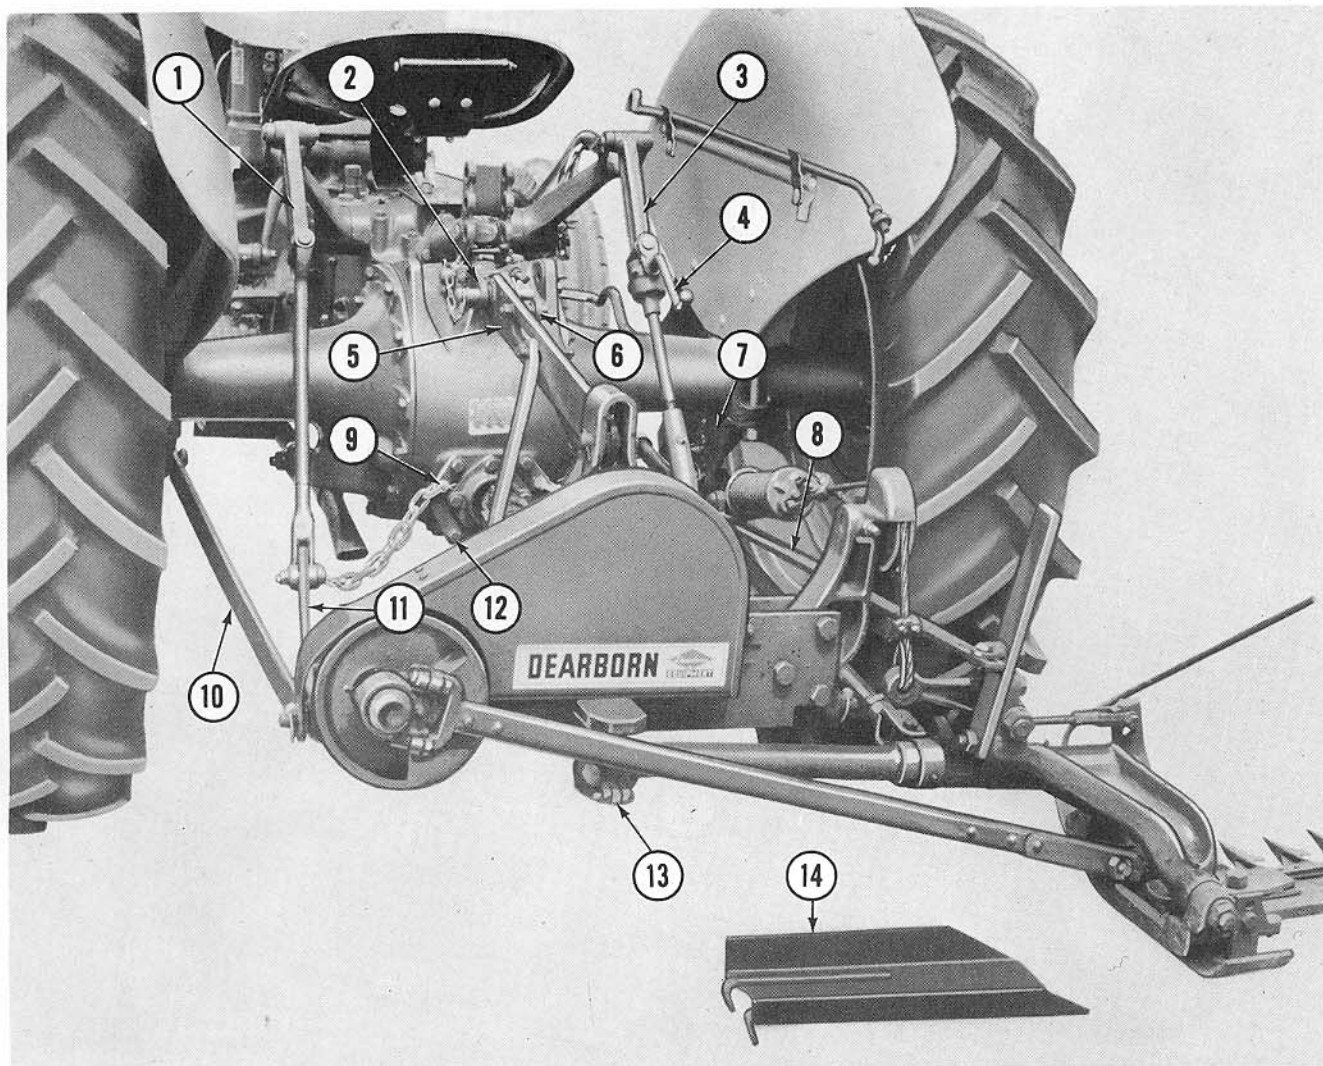
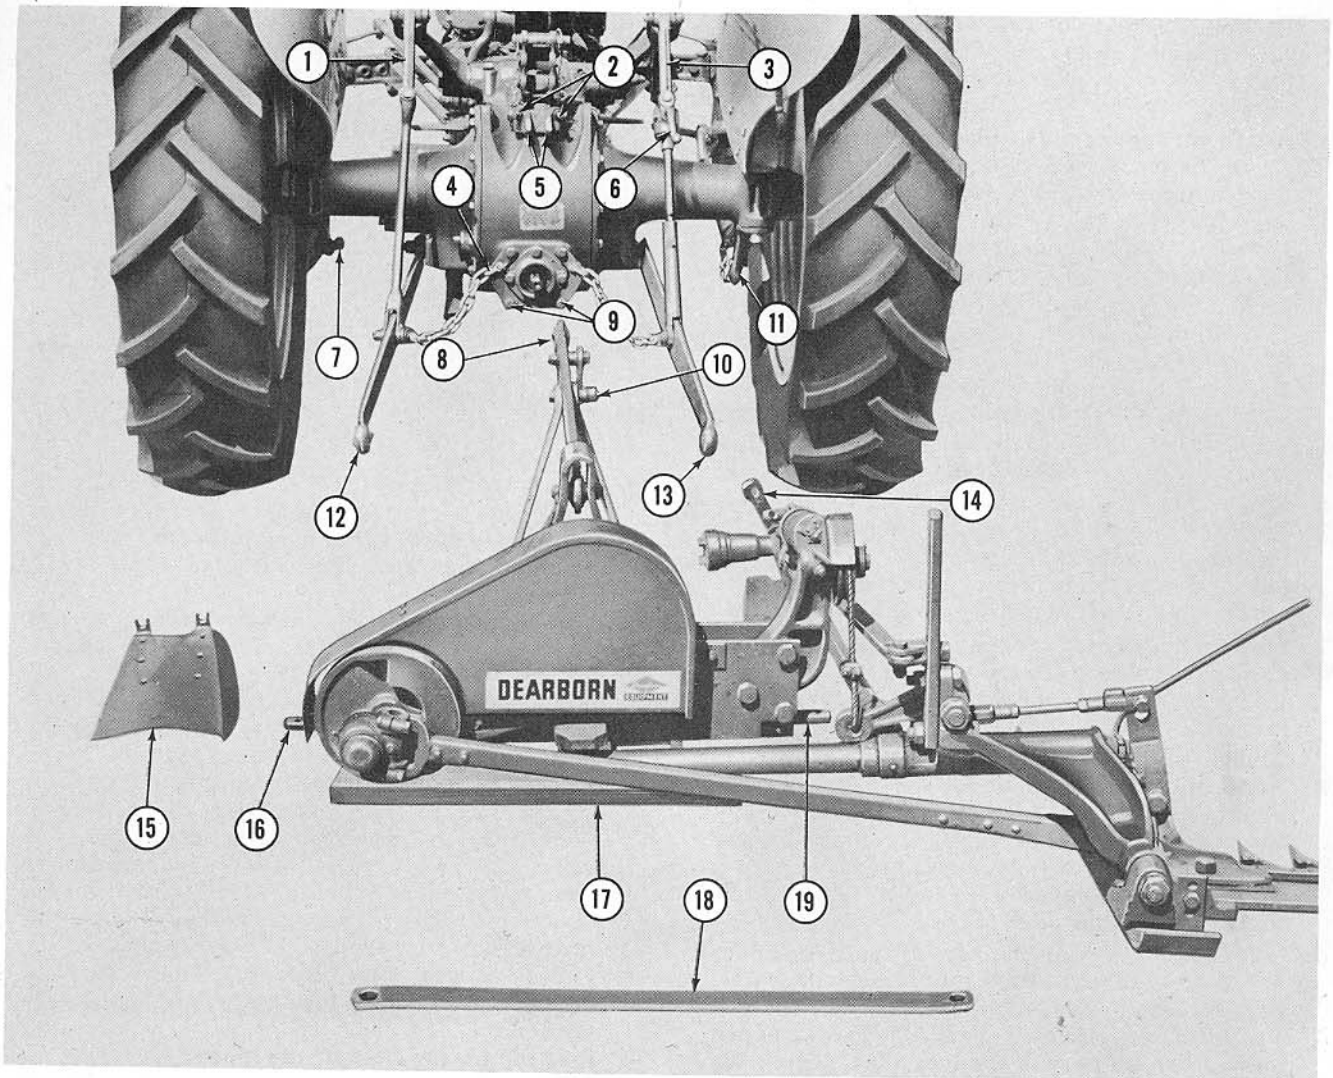

Figure 19
Figure 20
1. Remove the mower drive shaft shield (14), Figure 19, from the tractor and tighten the two bolts (12) in the tractor center housing.
2. Start the tractor engine, raise the mower and lock the anchor straps to the upper link with the lock (6), Figure 19. Disengage the tractor P.T.O. lever and shut off the engine.
4. Place a 2" plank (see 17, Figure 20), under the LEFT side of the mower main frame as shown. Be sure the plank is far enough forward so it will not be under the drag bar socket cup (13), Figure 19.
- a. Disconnect the tractor check chains from the tractor by removing the pins and cotter pins (9), Figure 19.
- b. Detach the mower upper link (5), Figure 19, from the upper link bracket (2) and replace the pin and linch pin in the bracket.
6. Relieve the tension on the balance spring by turning the leveling crank (4), Figure 19.
7. Remove the stabilizer bar (10), Figure 19, and detach the tractor left lower link (11) from the mower main frame. Detach the right lower link
8. Detach the mower pull bar (8), Figure 19, from the right hand anchor bracket (7) and replace the linch pin.
10. Reattach the check chains to the anchors with the pins and cotter pins (9), Figure 19.
11. Remove the lift link extension arms (1) and (3), Figure 19, from the tractor and replace the knuckles provided between the lift arms and the leveling rods.
NOTE: It may be necessary to remove the left hand anchor bracket (7), Figure 20, the right hand anchor bracket (11) and the top link bracket (5) from the
1. Attach the left hand anchor bracket (7), Figure 20, and the right hand anchor bracket (11) to the under side of the tractor rear axle housing with the fender bolts provided.
2. Remove the knuckles and attach the lift link extension arms (1) and (3), Figure 20, between the tractor lift arms and the tractor leveling rod as shown.
3. Attach the mower upper link bracket (5), Figure 20, to the lug on the tractor center housing with the pin and cotter pin provided. Tighten the two set screws (2) against the rocker assembly and secure with the jam nuts provided.
4. Disconnect the tractor check chains from the anchors by removing the pins and cotter pins (4), Figure 20.
5. Place the assembled mower on a level surface in an accessible position to the tractor. Place a two inch plank (17), Figure 20, under the mower main frame. This will raise the drawbar pins (16) and (19) to facilitate attaching the lower links.
6. Roll the tractor into position so the mower pull bar (14), Figure 20, is to the left of the tractor right rear wheel. Align the tractor right lower link (13) with the mower right drawbar pin (19), attach, and secure with the linch pin provided.
7. Position the mower upper link (8), Figure 20, against the tractor center housing (above the P.T.O. cover) to avoid binding and pry the tractor left lower link (12) on the left mower drawbar pin (16), with the stabilizer bar (18).
8. Attach the forward end of the stabilizer bar (18), Figure 20, to the left hand anchor bracket pin (7) and secure with the linch pin. Level the mower main frame with the tractor leveling crank. Attach the rear end of the stabilizer bar to the pin (16) and secure with the linch pin.
9. Raise the mower with the Ford Tractor Hydraulic Touch Control and attach the mower upper link (8), Figure 20, to the bracket (5) with the pin and linch pin provided. Lock the mower upper link anchor straps with the lock (10), Figure 20, and shut off the tractor engine.
10. Reattach the tractor check chains to the anchors with the pins and cotter pins (4), Figure 20, provided.
11. Remove the plank (17), Figure 20, from under the mower, disengage the P.T.O. lever, and remove the P.T.O. cap from the tractor.
13. Bolt the mower drive shaft guard (15), Figure 20, to the tractor with the two bolts (9). Engage the tractor P.T.O. lever and lower the mower to the ground.
1. Start the tractor engine, raise the mower and lock the anchor straps to the upper link with the lock (6), Figure 19. Disengage the tractor P.T.O. lever and shut off the engine.
3. Place a two inch plank (17), Figure 20, under the LEFT side of the mower main frame as shown. Be sure the plank is far enough forward so it will not be under the drag bar socket cup (15), Figure 19.
6. Relieve the tension on the balance spring by turning the leveling crank (6), Figure 20.